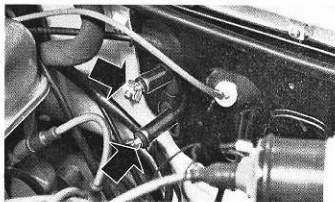

Fig. 8-66. Fitting plugs in heater system connection pipe
3. Remove the heater system's water hoses from the joint pipes in the firewall, and plug the pipes (Fig. 8-66).